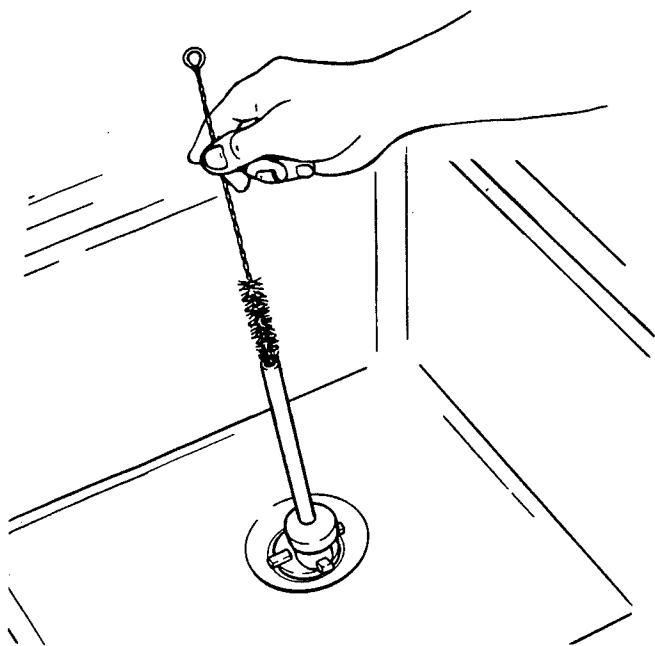

Figure 28. Sanitizing Mix Inlet Regulator
2. Run a sanitized brush down the air inlet regulator tube (Fig. 28).